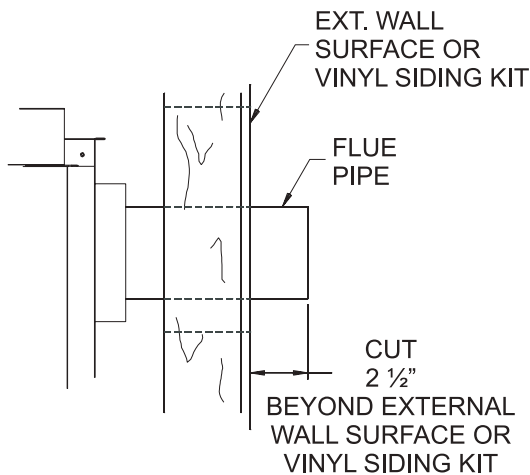

Figure 65
8. Attach the 4-inch diameter flue outlet tube to the rigid venting system or directly to fireplace. Ensure the 4-inch diameter flue outlet tube is placed as far as possible onto the rigid venting system. Mark the 4-inch diameter flue outlet tube 2-1/2 inches beyond the vinyl siding kit or wall. **See Figure 65.** Remove the 4-inch diameter flue outlet tube from rigid venting system. When installing directly to fireplace, tape gasket needs to be used.